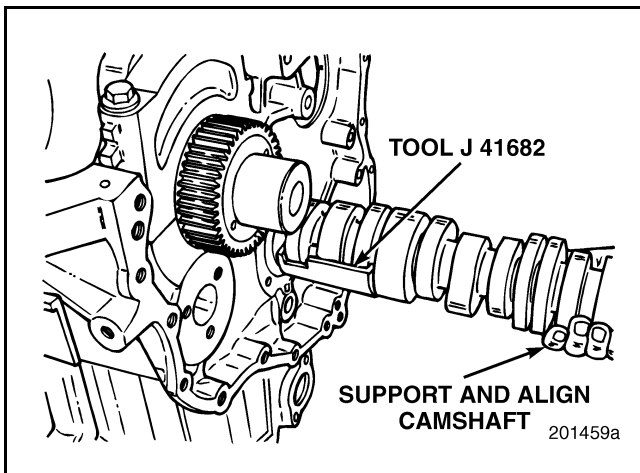

Figure 261 — Camshaft Installation
- With the engine still rotated 180 degrees (crankcase facing up, head deck facing down), position the camshaft in the block with the cam installation guide facing down toward the floor as shown in Figure 261.